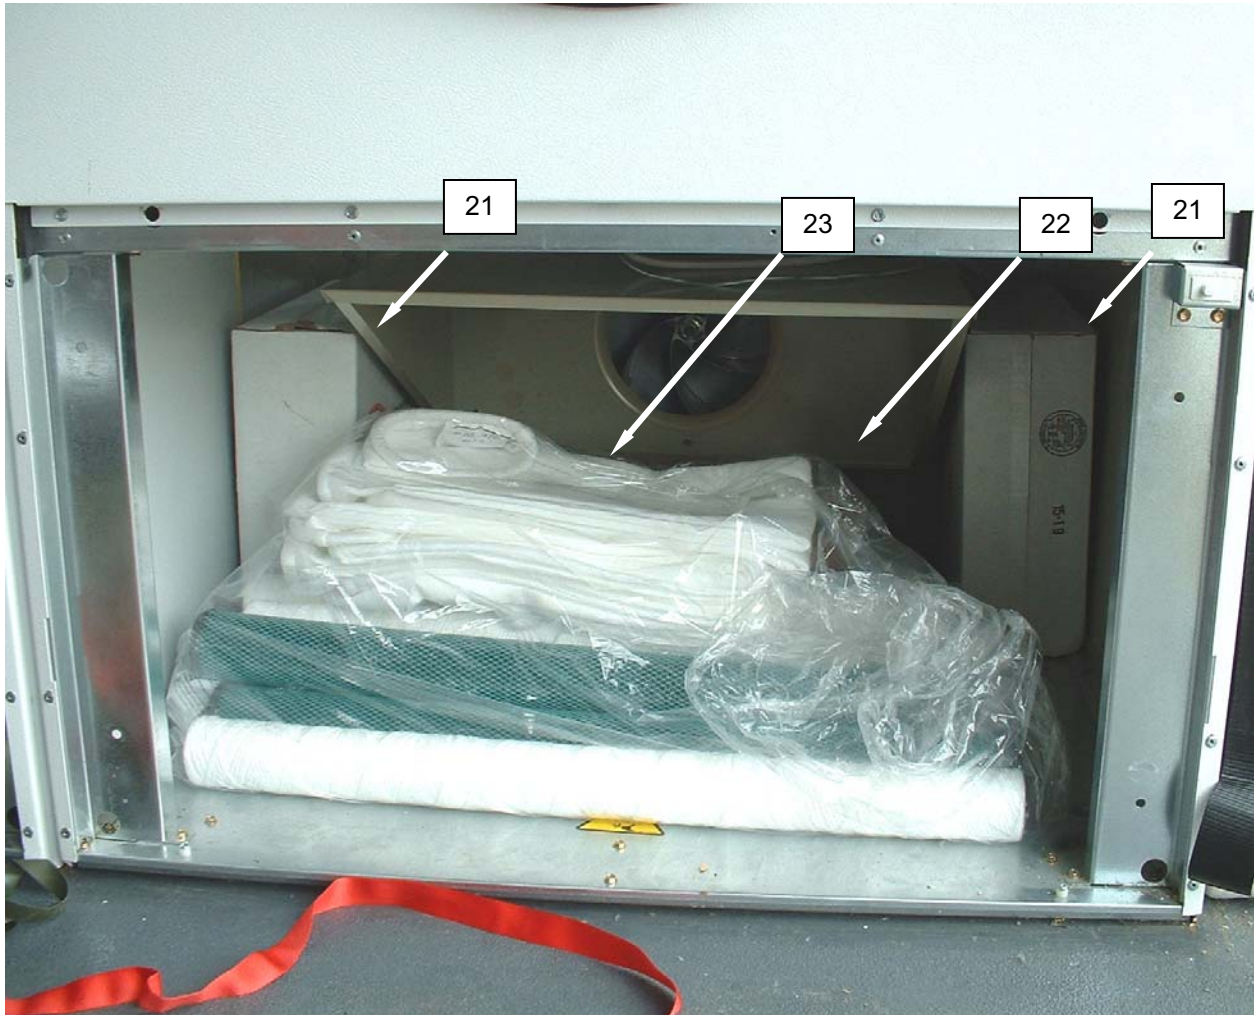

Figure 18. Place Pond Heaters, Fuel Can, and Filter Elements in Lint Compartment.
25. Place boxed water bag heaters (**Figure 18, Item 21**) on either side of lint screen support.
26. Place fuel can (**Figure 18, Item 22**) on its side in the center of the lint compartment, and as far back as it will go.
27. Place filter elements (**Figure 18, Item 23**) in front of fuel can.